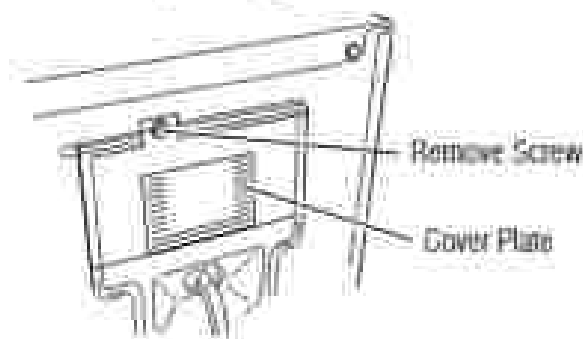

Figure 1 - Remove the cover plate (appearance may vary)
ACU BOARD (FIGURE 1)
2. Remove the cover plate from the top right corner of the back of the dryer. See Figure 1.